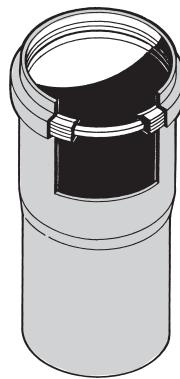

Fig. 1
- 2 Check that the socket seal is in perfect condition (*Fig. 1*)